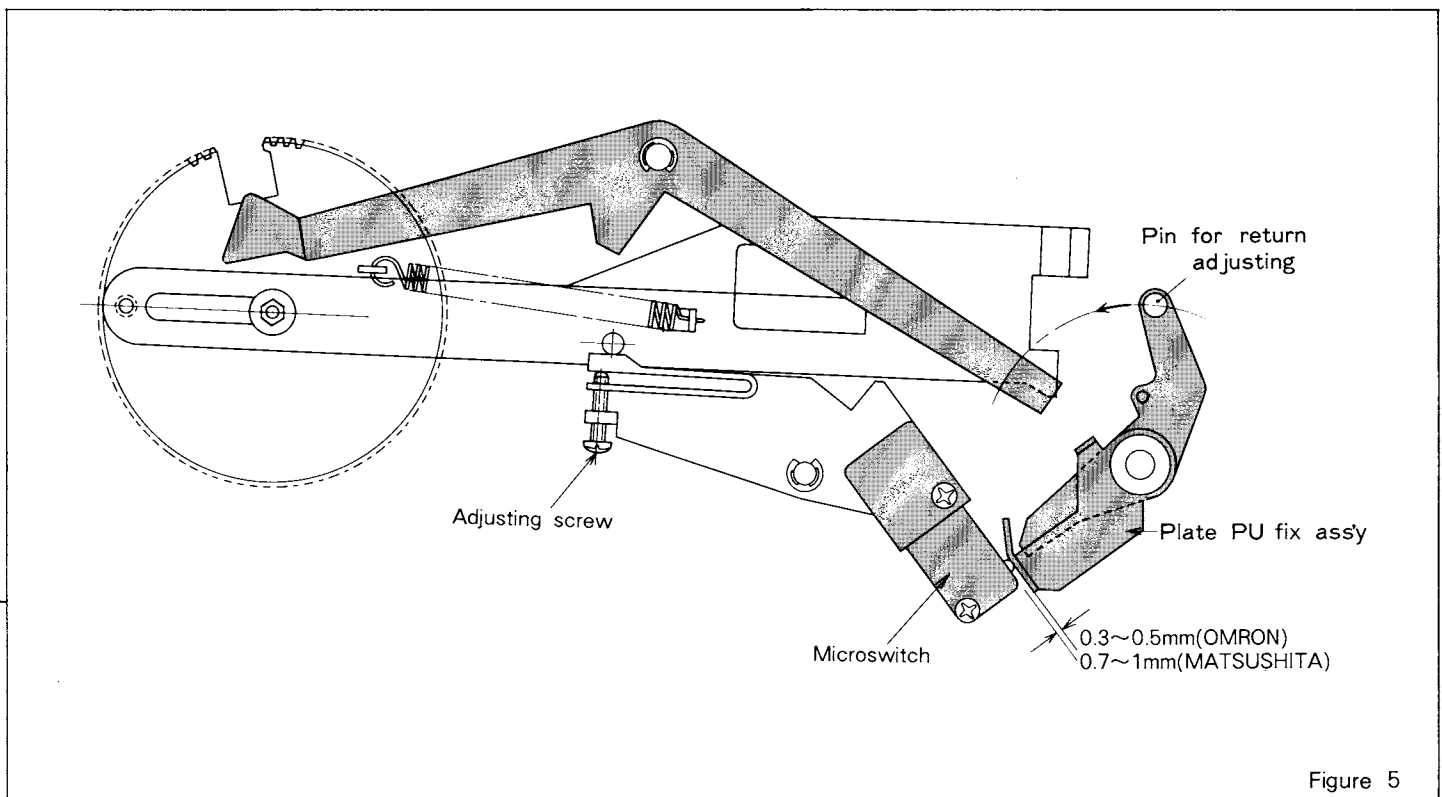

Figure 5
- (1) Adjust the distance between the Micro SW and the Plate PU fix ass'y (56) for the distance specified in Fig. 5. Note that two different types of Micro SW are used in this model and that each type requires a different gap as shown in Fig. 5.
- (2) Rotate the Gear cycling (43) through its complete cycle to make sure that the Micro SW is functioning properly by the movement of the Return plate ass'y (49).
**NOTE:** For correct positioning of Plate PU fix ass'y (56) refer to Fig. 5.
- (8) To make sure the automatic return operation, apply ADJUSTMENTS 2, 4 and 5.